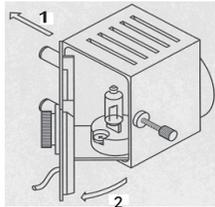

Figure 6.2 Removing the Rear Cover
- 3) Gently push the back cover in the direction of arrow 1, then rotate in the direction of arrow 2 to remove the back cover; See Figure 6.2.